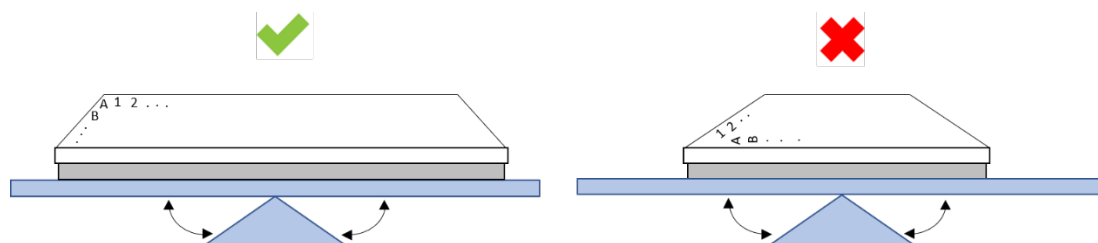

Figure 7: Place the OrganoPlate® on the OrganoFlow® in the correct orientation
12. Place the plate on the OrganoFlow® in a humidified incubator to start cell culture (see figure 7)